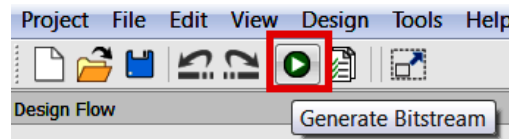

Figure 16 • Generate Programming Data
5. Click the **Generate Bitstream** icon to complete the Place and Route process and generate the programming file, as shown in Figure 16.